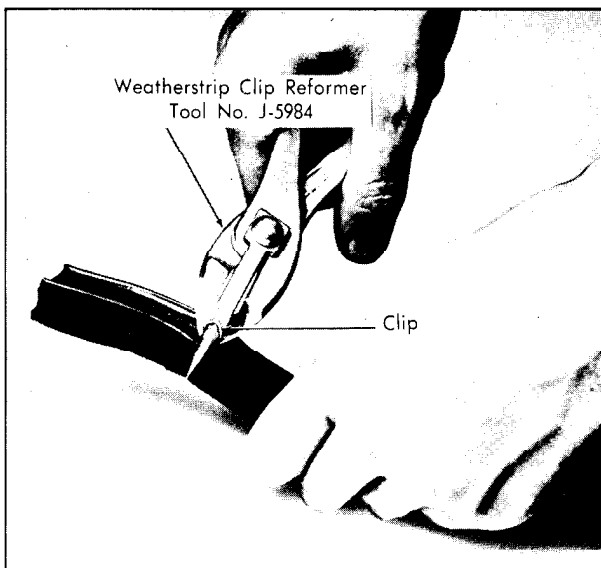

Fig. 17-185 Reforming Clip
2. Check weatherstrip clips for proper contour, and reform, if necessary with Clip Reforming Tool J-5984. (Fig. 17-185)